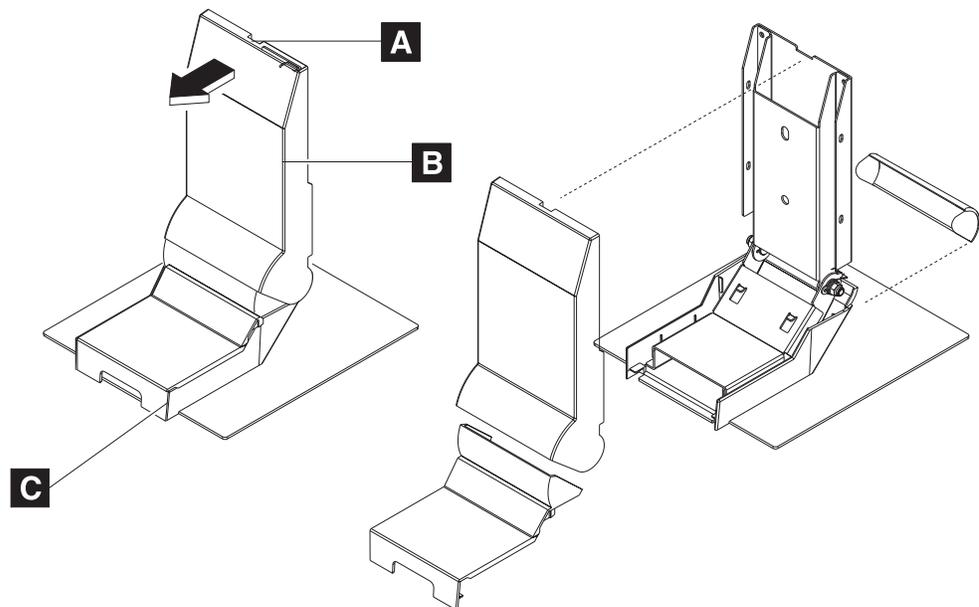

Figure 32. Removing the stand cover set
1. Remove the arm cover (**B**) by pulling on the finger recess (**A** in Figure 32) located on the top of the cover.